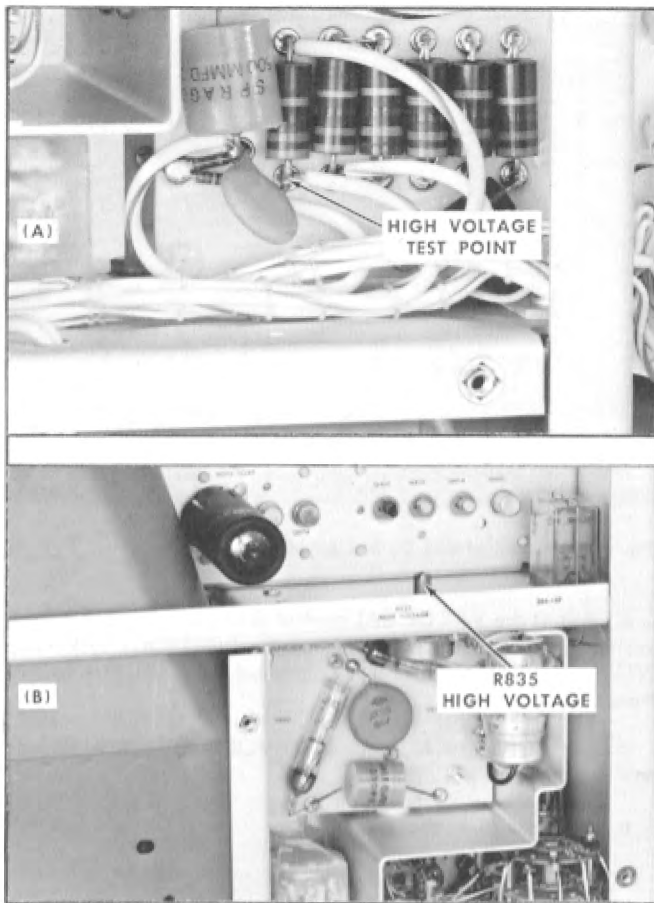

Fig. 6-5. Location of (A) high-voltage test point, (B) HIGH VOLTAGE adjustment.
- b. Connect the DC voltmeter between the CRT cathode [see Fig. 6-5] and ground.
- g. Adjust the HIGH VOLTAGE control [R835; see Fig. 6-5] to obtain a meter reading of -5300 V.